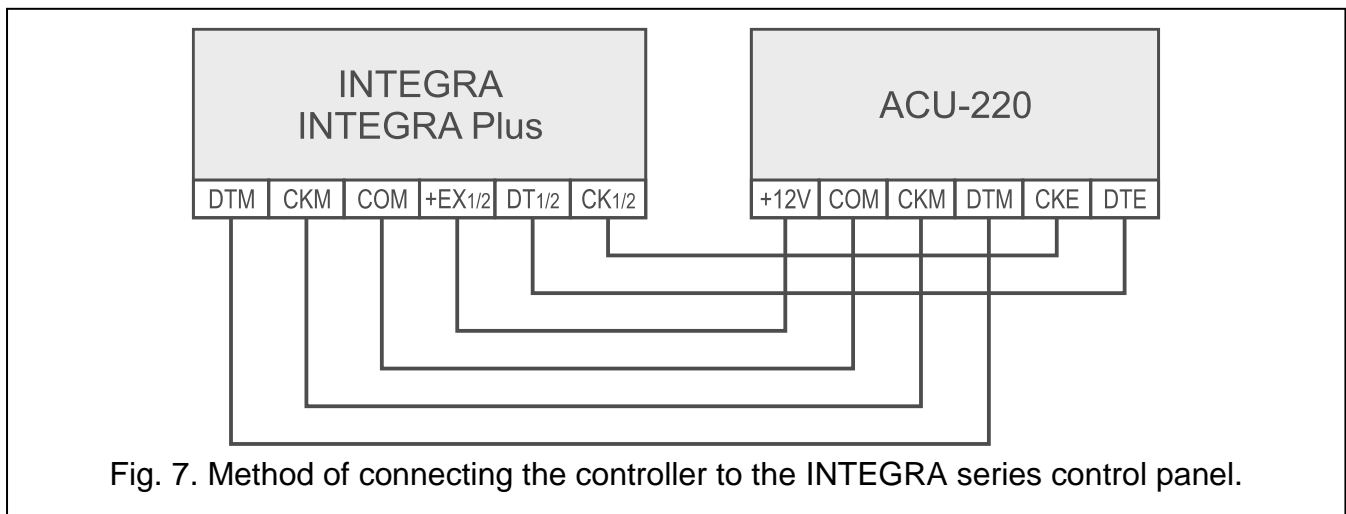

Fig. 7. Method of connecting the controller to the INTEGRA series control panel.
**INTEGRA:** connect the CKM, DTM, CKE, DTE and COM terminals to the corresponding terminals of the control panel communication buses (Fig. 7).